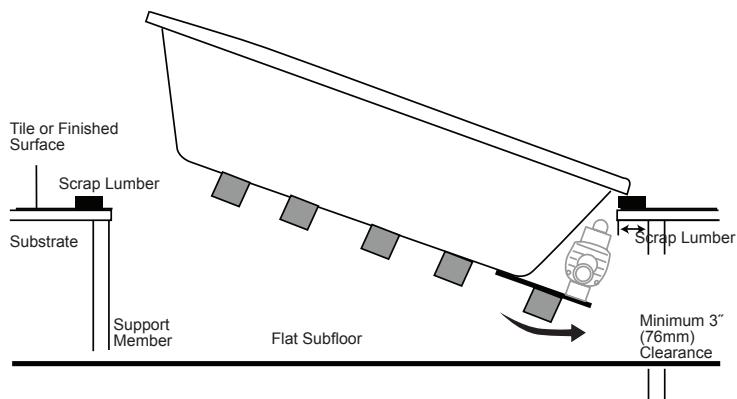

Figure 8 - Drop-In Installation
- 12** Place a piece of scrap lumber on each of the ends of the cutout – this will be used as a temporary support prior to lowering the bathtub fully into the opening (Figure 8).